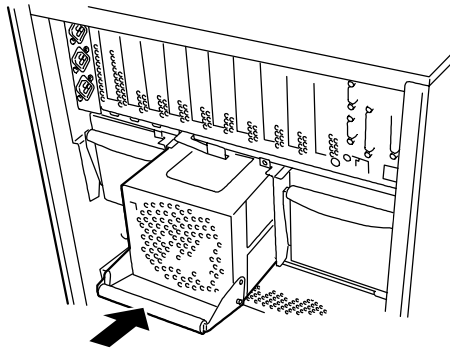

Figure 4-62. Installing the New Power supply
6. Slide the power supply into the bay, see Figure 4-62.